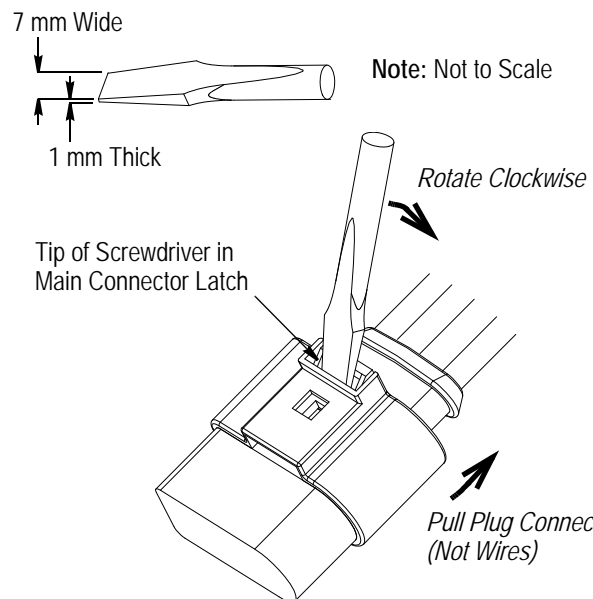

Figure 3
If desired, a flat head screwdriver (refer to dimensions in Figure 3) can be used to *gently* rotate the main connector latch as shown in Figure 3.
- Added screwdriver tip width and illustration to Figure 3